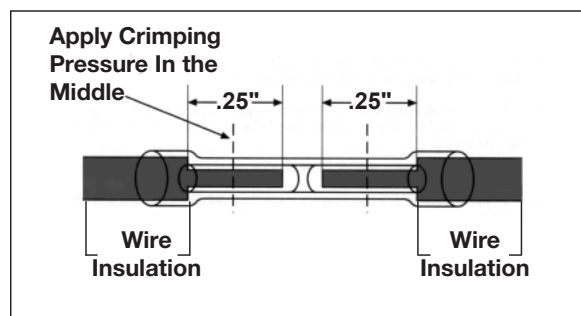

Figure 7
- Splice joints must be adequately sealed and insulated. Adhesive-lined heat shrink tubing is highly recommended to cover soldered and bare metal barrel crimp joints (**Fig. 7**).
**NOTE:** It is important to remember that a solid electrical connection is essential when installing any electrical device or option. A proper crimp is shown in (**Fig. 7**).